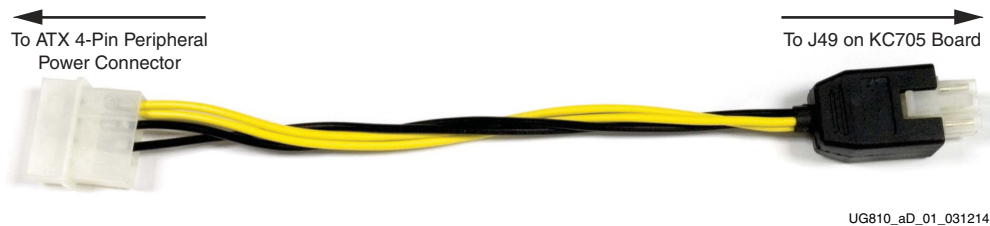

Figure D-1: ATX Power Supply Adapter Cable
When the KC705 board is used inside a computer chassis (i.e., plugged in to the PCIe® slot), power is provided from the ATX power supply 4-pin peripheral connector through the ATX adapter cable shown in Figure D-1 to J18 on the KC705 board. The Xilinx part number for this cable is 2600304 and is equivalent to Sourcegate Technologies part number AZCBL-WH-1109-RA4. For information on ordering this cable, see [\[Ref 20\]](#).
7. Connect the ATX power supply to the KC705 board using the ATX power supply adapter cable as shown in Figure D-1: